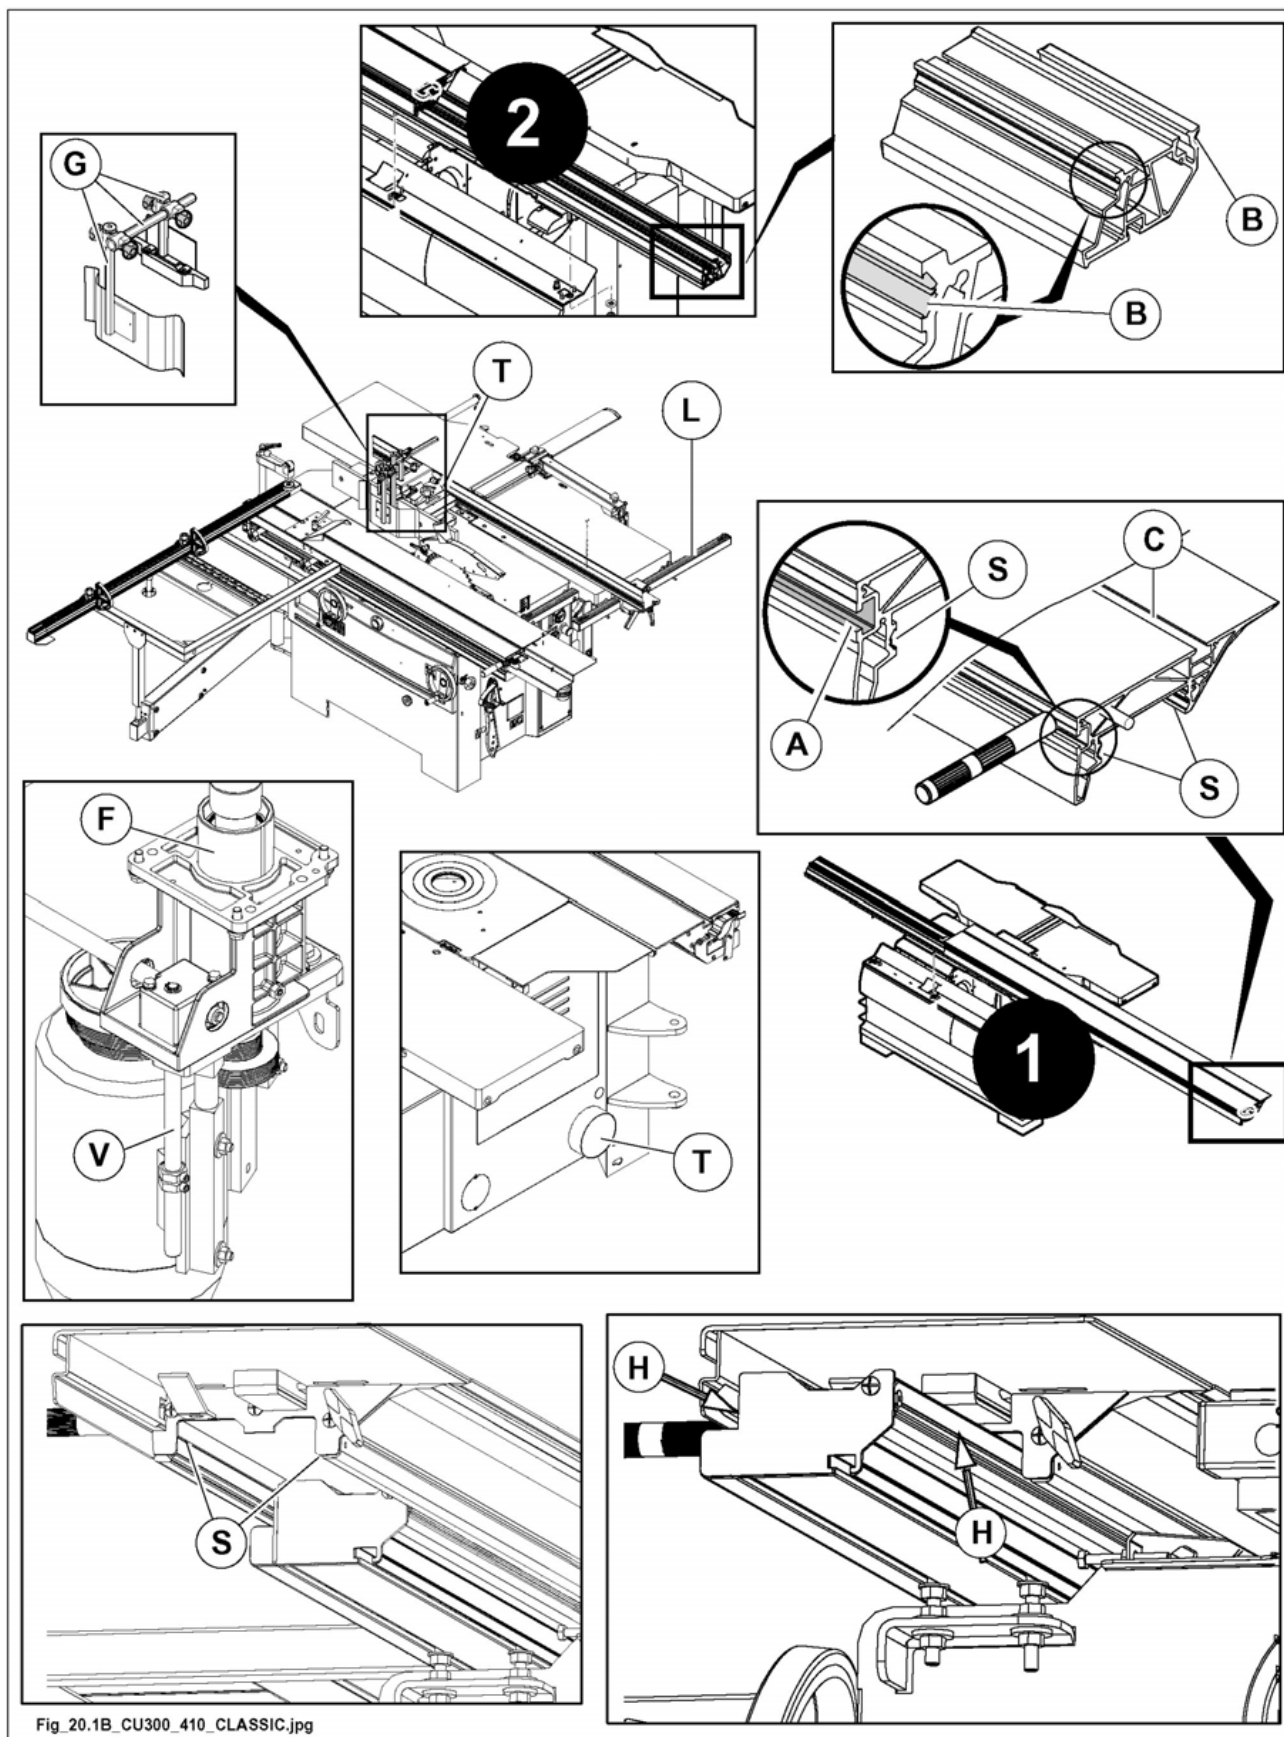

Fig. 20.1B
- Suction hoods (T fig. 20.1B) by checking that there are no occlusions.
- With the sliding table in position 1 (totally at entry) fig. 20.1B, then in position 2 (totally at exit), its bottom guides and specially the points indicated by arrows (H fig. 20.1B) for a 15 mm depth.
- Guides (A fig. 20.1B) of squaring frame.
- Rod (L fig. 20.1B) of the fence.
- Slideways (S fig. 20.1B) of the sliding table and (B fig. 20.1B) of the rail.
- Groove (C fig. 20.1B) with a brush or cloth drunken with not dangerous solvent.
- Spindle sliding cylinder (F fig. 20.1B).
- Presser unit sliding rods (G fig. 20.1B).
- Moulder spindle lifting screw (V fig. 20.1B).
- the guides of sliding table (S fig. 20.1B) and of rail (B fig. 20.1B) .